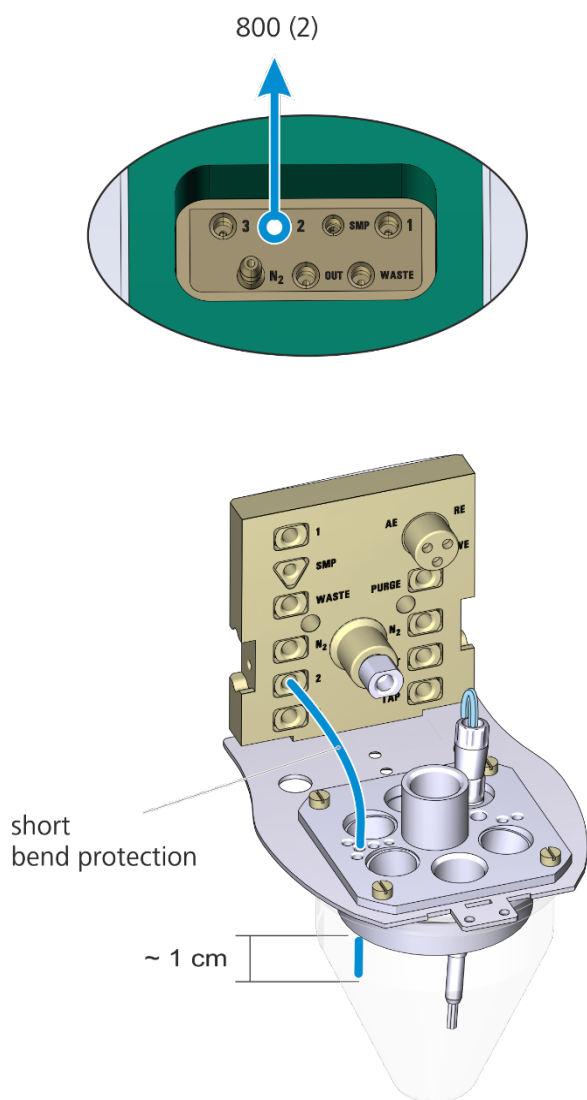

Fig. 4: Detailed view of the measuring head
- The electrolyte tubing should be put through the central one of the four equally sized holes on the left side (see Fig. 4) to minimize overlapping with further installed tubes (automatic rinsing, additional solutions).